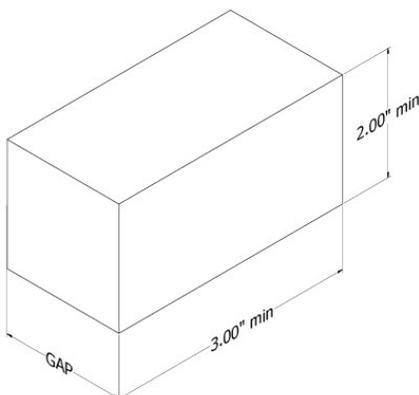

Figure 12: Illustration of spacer
- b. If gaps remain, fill them with spacers measuring at least 2" high x 3" wide (Figure 12). Recommended spacer materials include plastics with compressive yield strength greater than 20MPa. Examples of suitable material available from McMaster-CARR include: